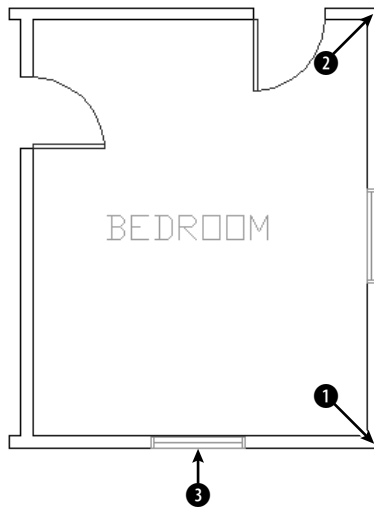

Figure 14-3: A bedroom plan.
2. Save the file as `ab14-01.dwg` in your AutoCAD Bible folder. This is a plan of a bedroom, as shown in Figure 14-3. ORTHO and OSNAP should be on. Set running object snaps for endpoint, midpoint, and intersection. The current layer should be set to Dim.
4.  Choose Linear Dimension from the Dimension toolbar. At the Specify first extension line origin or <select object>: prompt, pick **1** in Figure 14-3. At the Specify second extension line origin: prompt, pick **2**. At the Specify dimension line location or [Mtext/Text/Angle/Horizontal/Vertical/Rotated]: prompt, move the cursor to the right until you have sufficient space for the dimension text and click.
5. Repeat the DIMLINEAR command. At the Specify first extension line origin or <select object>: prompt, press Enter. At the Select object to dimension: prompt, pick **3** (the window) in Figure 14-3. At the Specify dimension line location or [Mtext/Text/Angle/Horizontal/Vertical/Rotated]: prompt, move the cursor down until you have sufficient space for the dimension text and click.